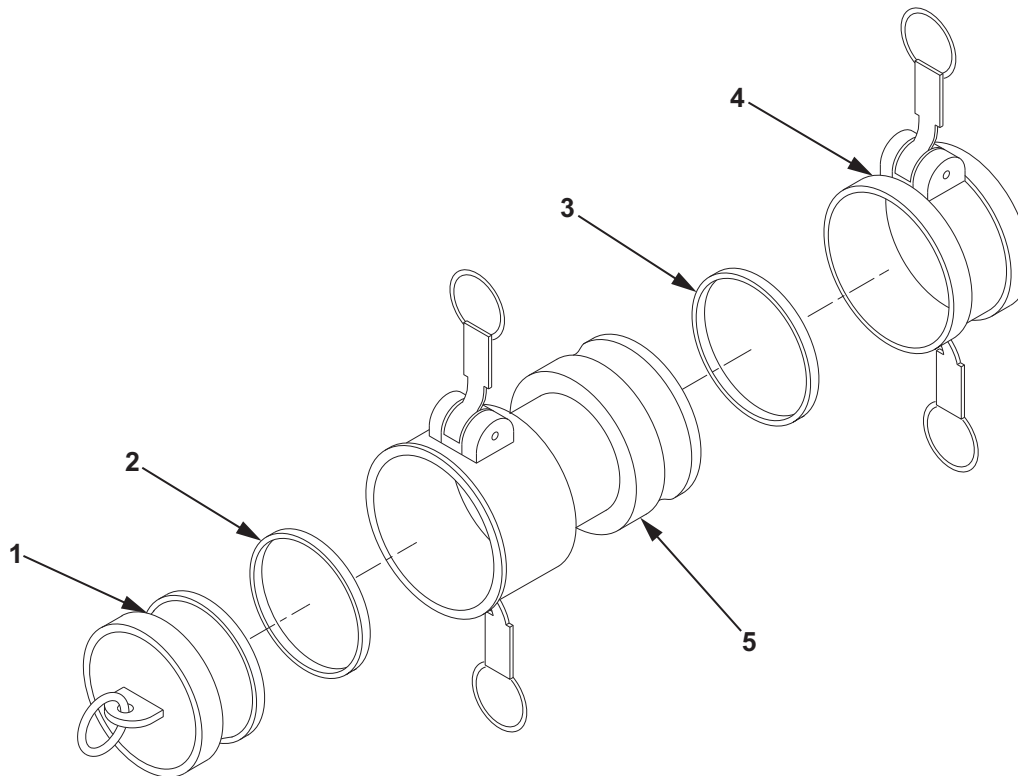

Figure 1. 4 In. Male X 3 In. Female Reducer Disassembly.
1. Remove 3 in. dust plug (Figure 1, Item 1) from reducer assembly (Figure 1, Item 5).
2. Remove 4 in. dust cap (Figure 1, Item 4) from reducer assembly (Figure 1, Item 5).
3. Remove gasket (Figure 1, Item 2) from reducer assembly (Figure 1, Item 5). Discard gasket (Figure 1, Item 2).
4. Remove gasket (Figure 1, Item 3) from 4 in. dust cap (Figure 1, Item 4). Discard gasket (Figure 1, Item 3).